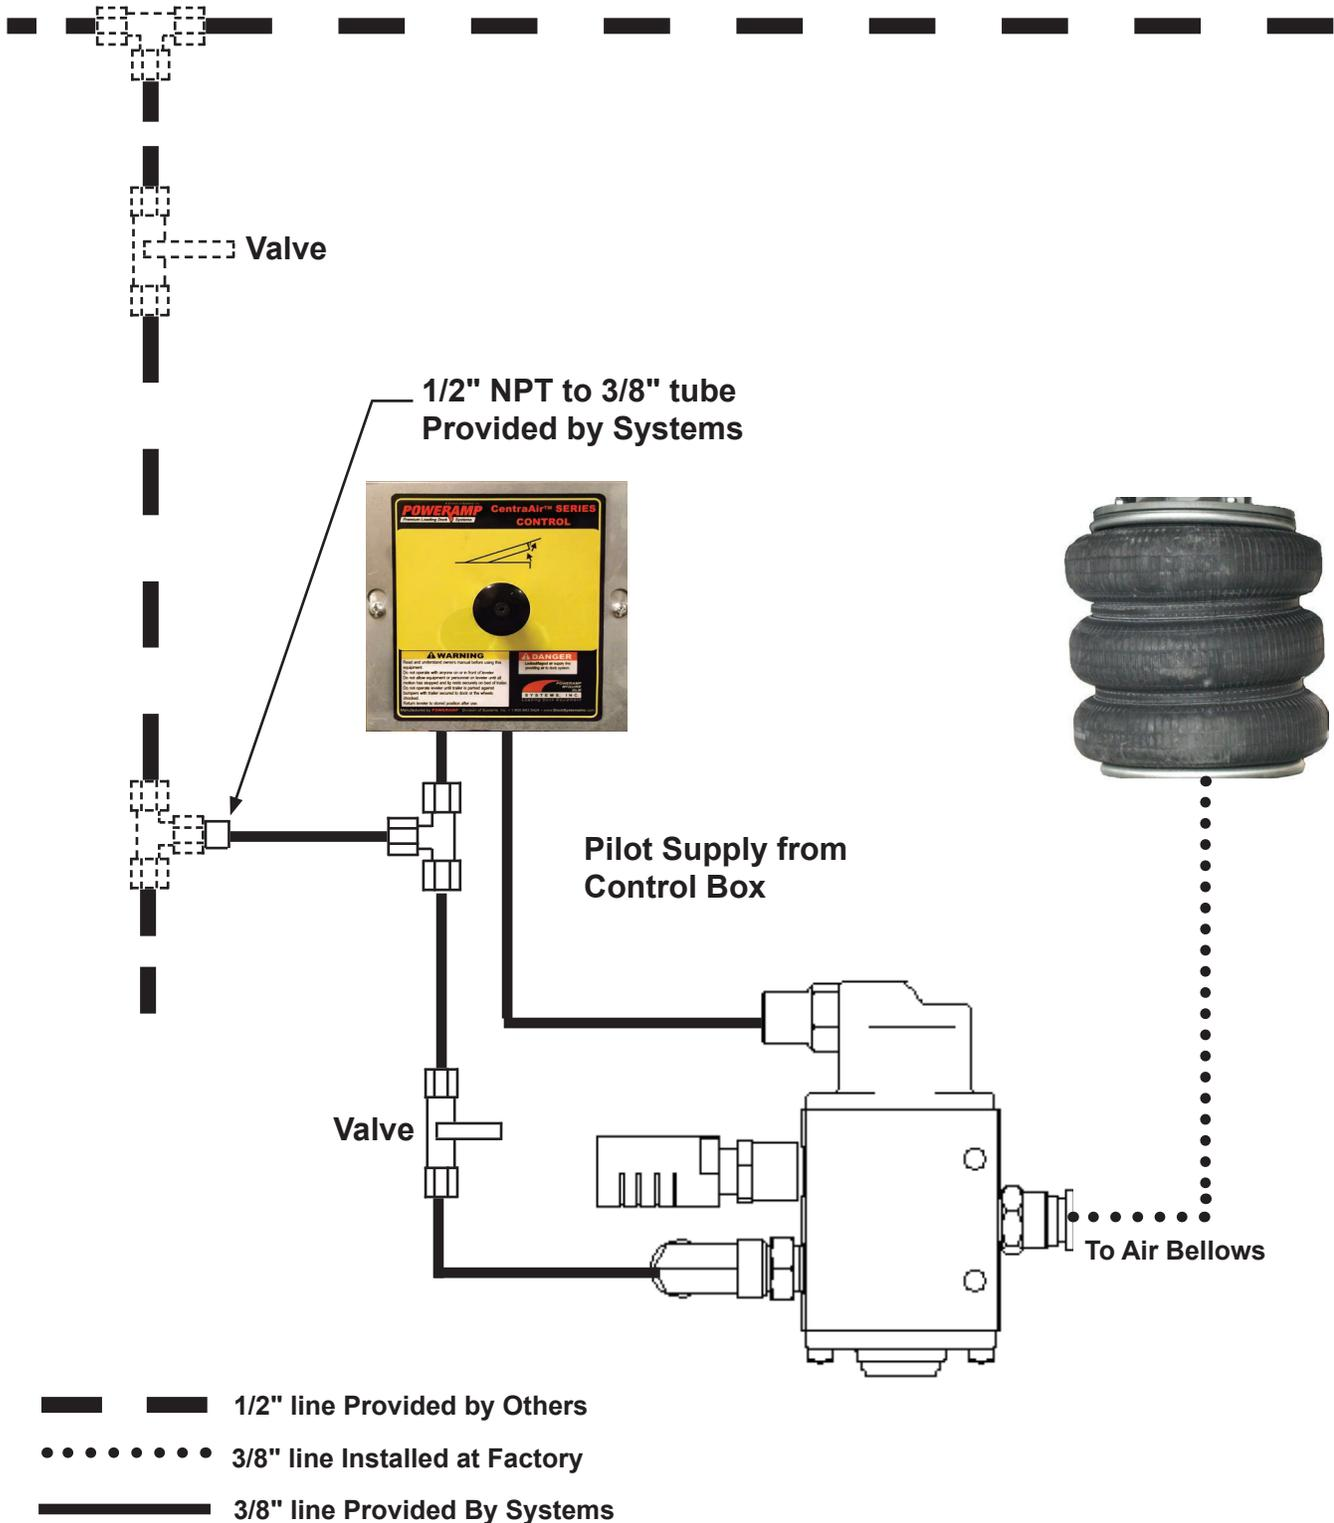

**Figure 15**
1. Mount the push button control panel (B) so bottom of control panel-to-dock floor distance (C) is 48 in. (1219 mm). See Figure 15.